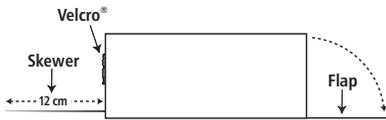

Figure 5
5. Poke a skewer through the front end of the shoe box close to the bottom of the box and centered directly beneath the Velcro® strip. Extend the skewer through the hole 12 cm beyond the edge of the front of the box (see figure 5).